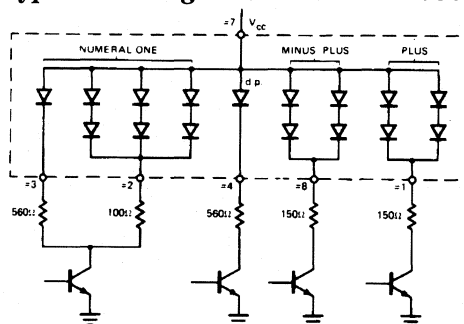

Figure 7.
- L: Line switching transistor in Figure 7 cutoff.
H: Line switching transistor in Figure 7 saturated.
LED current must be externally limited. Refer to Figure 7 for recommended resistor values.